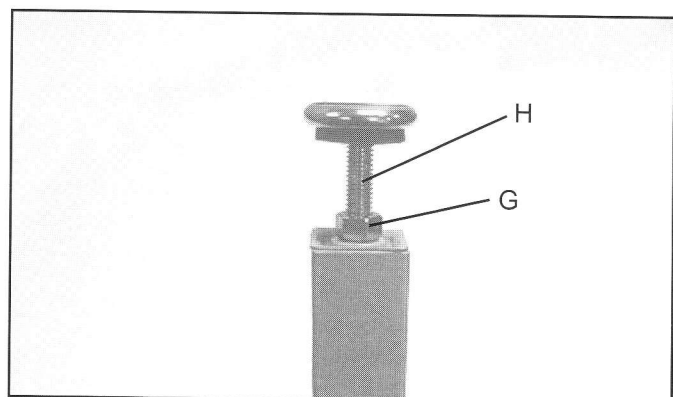

Fig. 10
5. Assemble the 3/8" jam nut (G) onto leveling screw (H). Thread leveling screw into bottom of support leg. Fig. 10 illustrates the foot leveling assembly on the table leg. Assemble the remaining foot assembly to the other leg in the same manner. **NOTE:** Height adjustment will be made later.